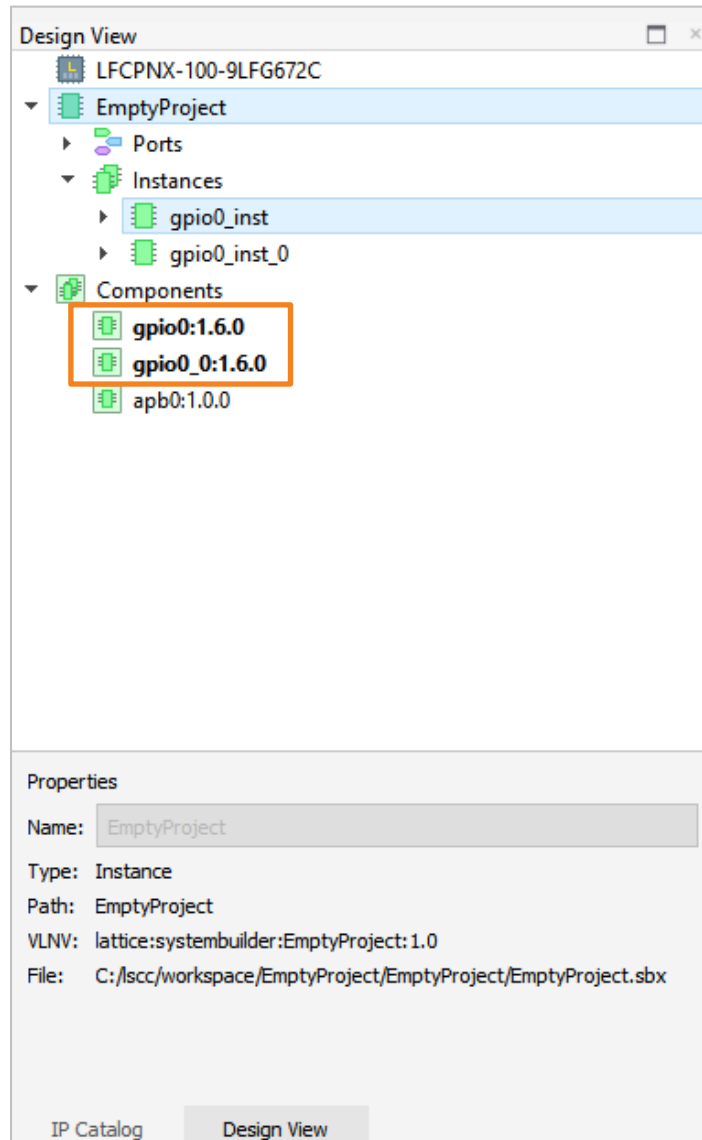

Figure 2.66. Design View
1. In the List view of the Design View (Figure 2.66), go to the Components folder. The deleted module can still be found in the List view in plain text. Those not deleted are shown in bold-faced text.